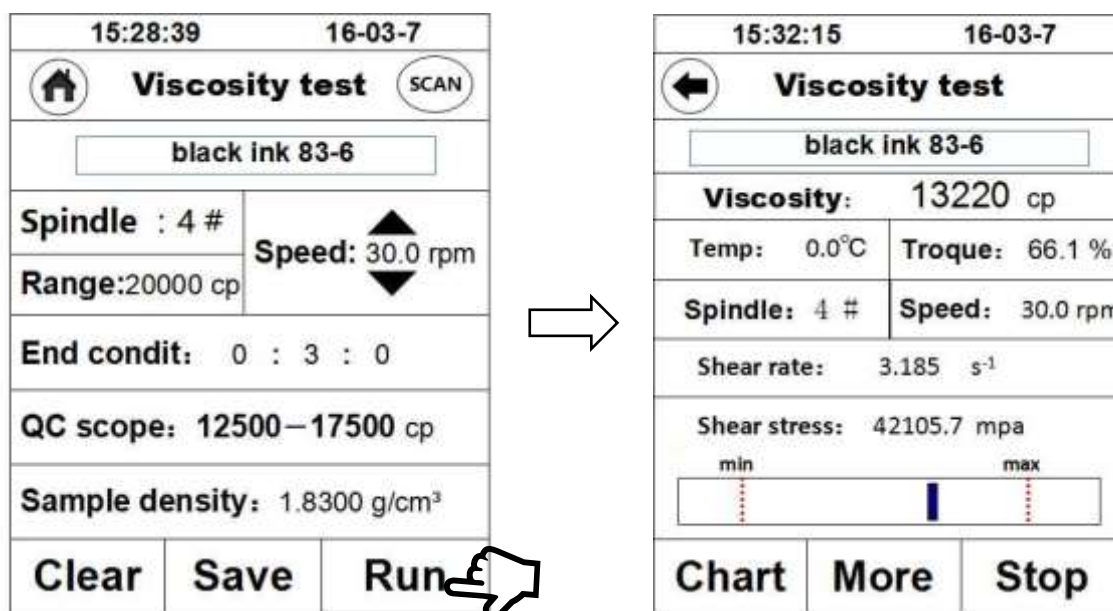

Fig. 21
1.4 Start testing: after parameters are well set, click “**Run**” to start testing and switch the interface to the testing interface (Fig. 21).